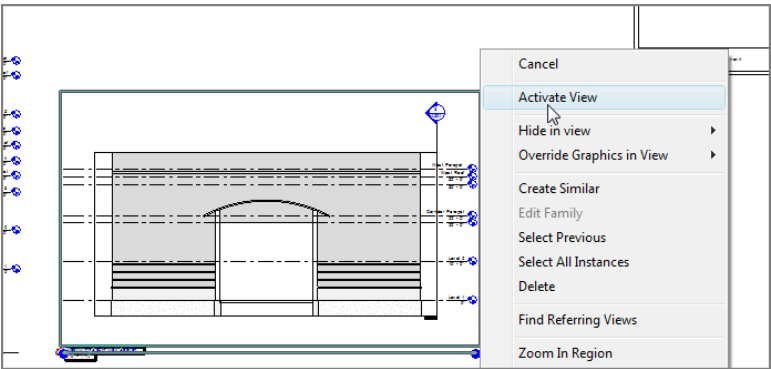

FIGURE 14.10: Activating a view
2. Zoom in on the viewport West Wing South Wall Section, as shown in Figure 14.10.
4. Right-click, and select Activate View (see Figure 14.10).